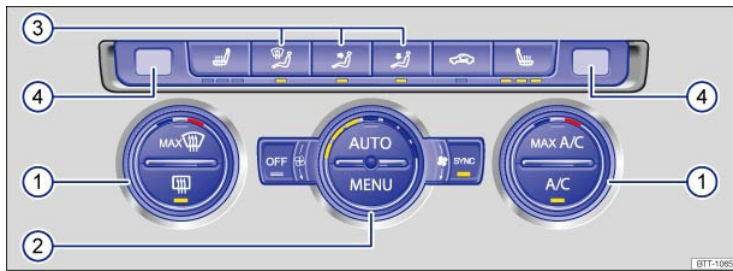

Fig. 192 In the center console: Climatronic controls.
Button/Knob	More information: Climatronic ⇒ Fig. 192.
Air distribution ③ 	Press the buttons ⇒ Fig. 192③ to direct air flow in the desired direction. In AUTO mode, air flow is automatically adjusted to a comfortable level.
When adjusting fan speed manually, LEDs in the knob ⇒ Fig. 192 light up to indicate the current fan speed. During automatic regulation, the fan speed is not indicated.
- Press the **MENU** ⇒ Fig. 192 button on the Climatronic controls.